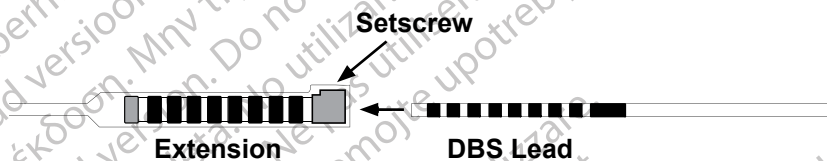

Figure 29. The DBS Lead and Lead Extension Connector
1. Ensure that the Setscrew is not restricting the entry port on the Lead Extension Connector by unscrewing the Setscrew 1 to 2 turns with the Torque Wrench (Figure 29).